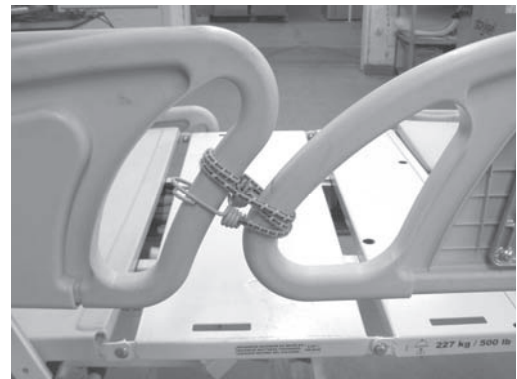

Figure 4
3. Using a small regular screwdriver, lift and remove the outer membrane (A), two screw covers (C) and the label (B). Use caution when inserting the screwdriver under the labels to avoid damaging the cover.
5. Using a #2 Phillips screwdriver, remove the eight screws (D) holding the outer cover to the siderail.
6. Disconnect the control board cable (M) and remove the outer cover.
7. Secure the siderail to be repair to the adjacent siderail using a bungee cord (see Figure 4).